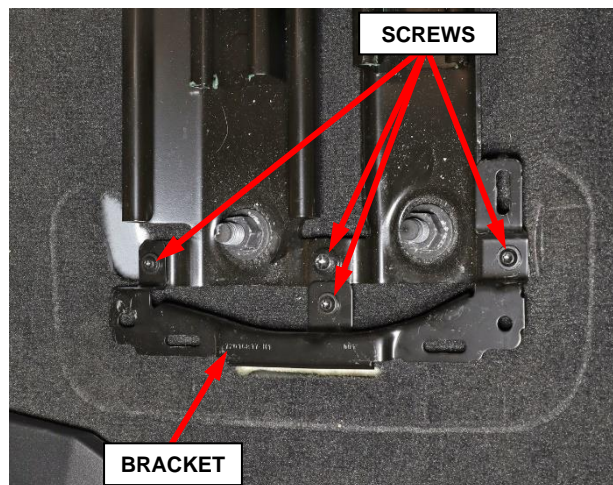

Figure 47 – Trim Bracket and Screws
8. Remove the seat track connector screw and the seat track trim cover bracket screws then remove the seat trim cover bracket (Figure 47).